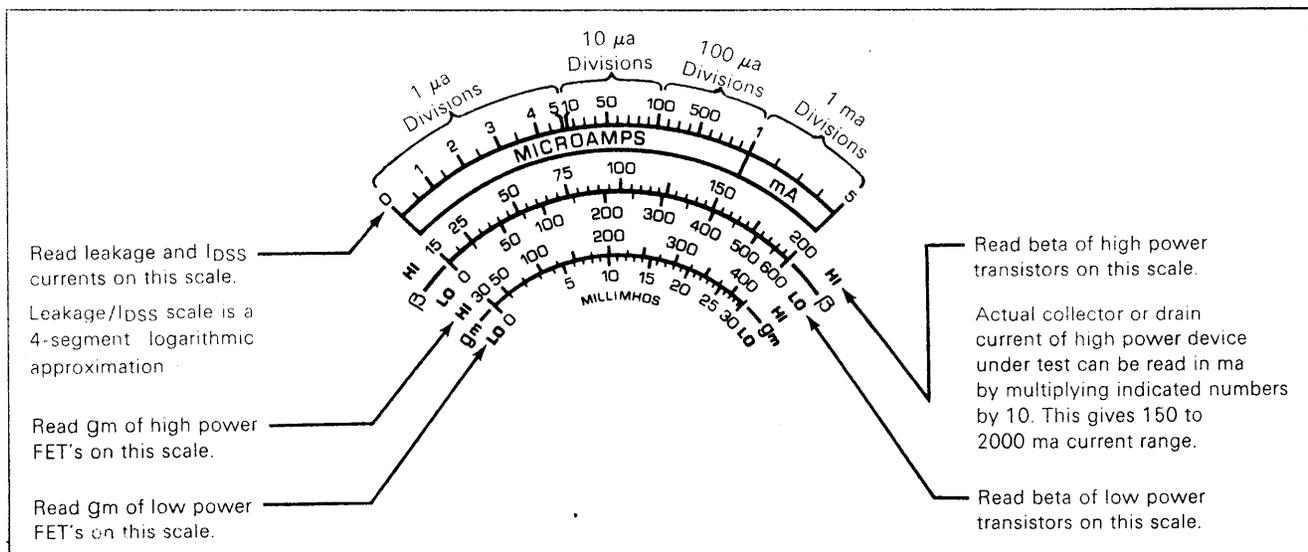

Fig. 2. Leakage/gain meter scales.
7. In performing beta and G_m tests of transistors and FET's, it is possible to determine the collector or drain current for power devices under the test conditions, by reference to LEAKAGE/GAIN meter. The HI power beta scale is proportional to the amount of collector current (for transistors) or drain current (for FET's) under test. The 0-200 scale of the HI range can be converted to actual milliamperes by a multiplication of ten. In other words, the full scale reading of 200 corresponds to 2000 milliamperes, or 2 amps. Refer to Fig. 2 under "CONTROLS AND INDICATORS" for detailed LEAKAGE/GAIN meter scale details.
Indicator for all out-of-circuit leakage and gain measurements. (See Fig. 2.)